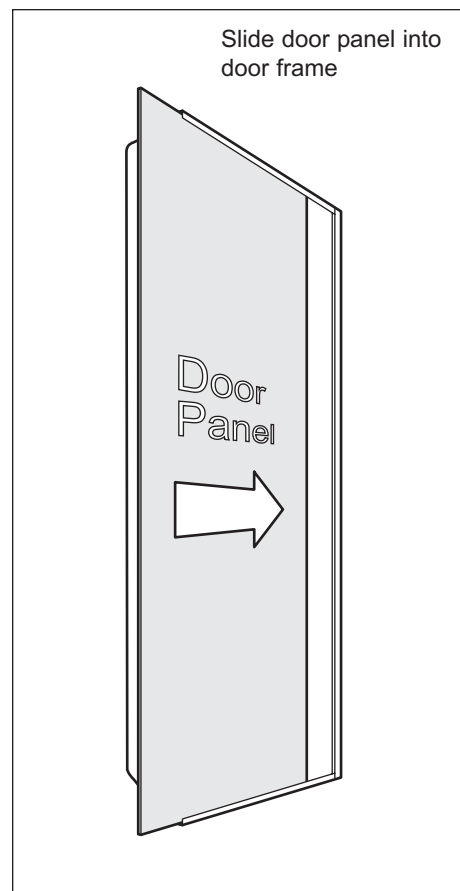

Figure 2-11. Door Panel Install
- Slide door panel into door frame (See Figure 2-11), then reinstalling handle/trim and magnetic trim molding.